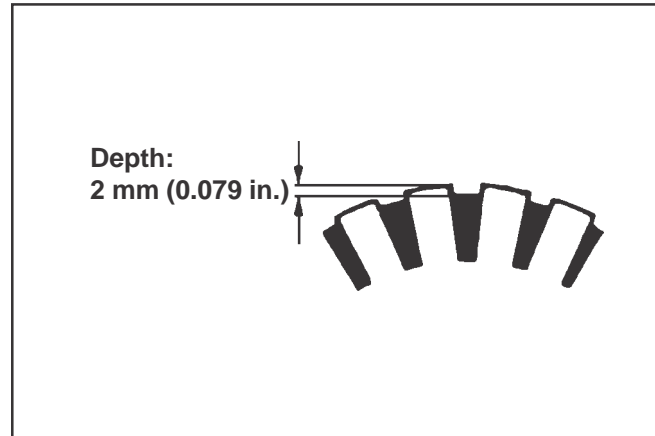

Figure 8-46. Commutator Mica Depth.
- Measure the mica (insulation depth between the commutator segments). The depth should be **2 mm (0.079 in.)**. If less, cut/scrape the mica to the proper measurement using a hacksaw blade or similar tool ground to fit between the segments. See Figure 8-46.